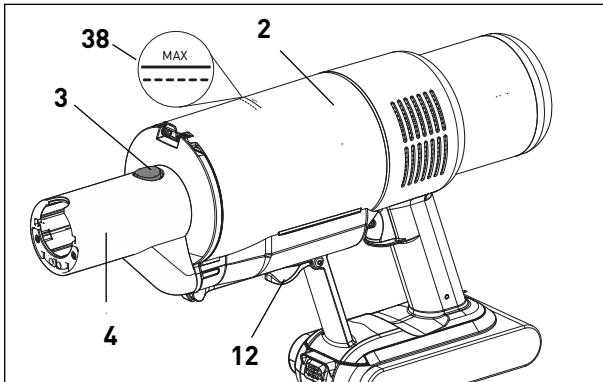

Figure 12
**Emptying the Dust Container - Figures 12-16** - The dust container (4) must be emptied when the "MAX" level (38) is reached (figure 12).